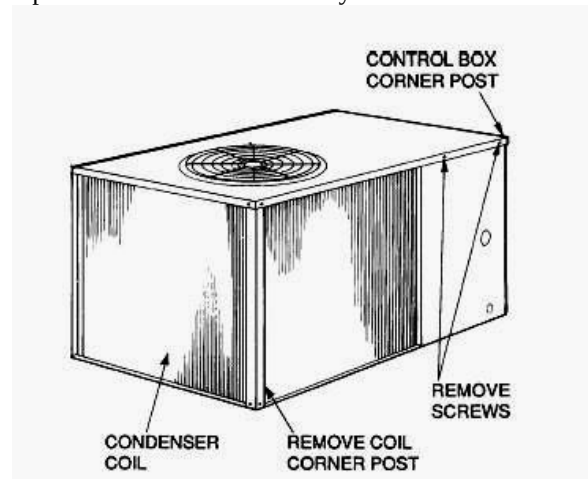
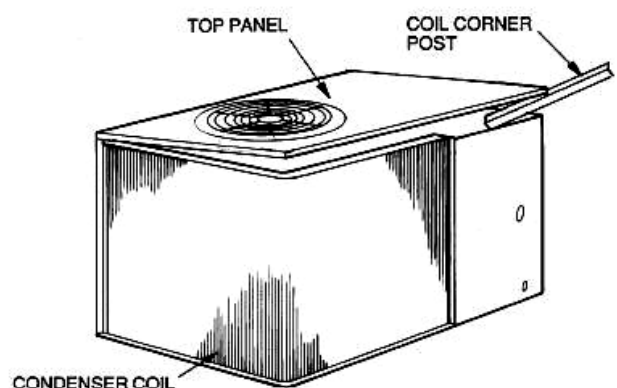

Fig. 3 – Cleaning Condenser Coil
Fig. 4 – Propping Up Top panel
3. Remove condenser coil corner post. See Fig. 3. To hold top panel open, place coil corner post between top panel and side panel. See Fig. 4.